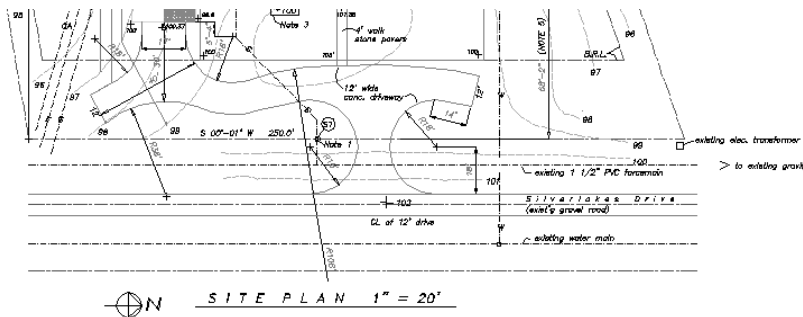

Figure 16-32: The parallel lines at the bottom of the site plan can be drawn by using a multiline.
2. Save the file as `ab16-07.dwg` in your AutoCAD Bible folder. This is a site plan, shown in Figure 16-32.